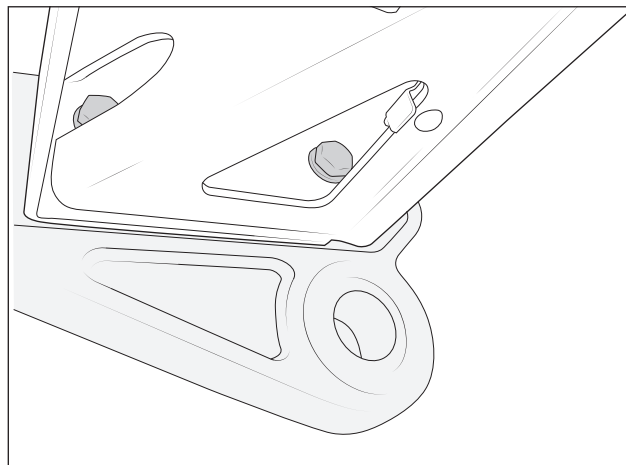

Figure 35
4. Use two supplied M12x50 Hex head bolts to mount the tow hook between the corner assembly and the center section (fig. 35). NOTE: Bolts are installed through openings in the center section. Some of the previously installed wiring may need to be moved to allow tool access.
- C. Torque M12 bolts (fig. 35) to **74 lb-ft.**